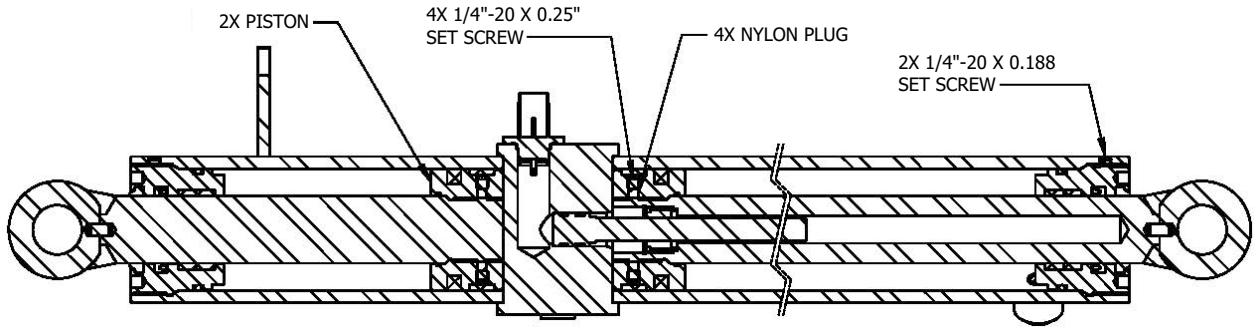

Figure 3: Cylinder view after field modification with kit M17552
- Option 3: In the field, modify cylinder P/N: H13248 with modification kit P/N: M17552. It is highly recommended that this modification be done in a clean facility qualified to handle hydraulic cylinder repairs, to ensure the seals and LVDT probes aren't damaged. See Figure 3 on page 3.